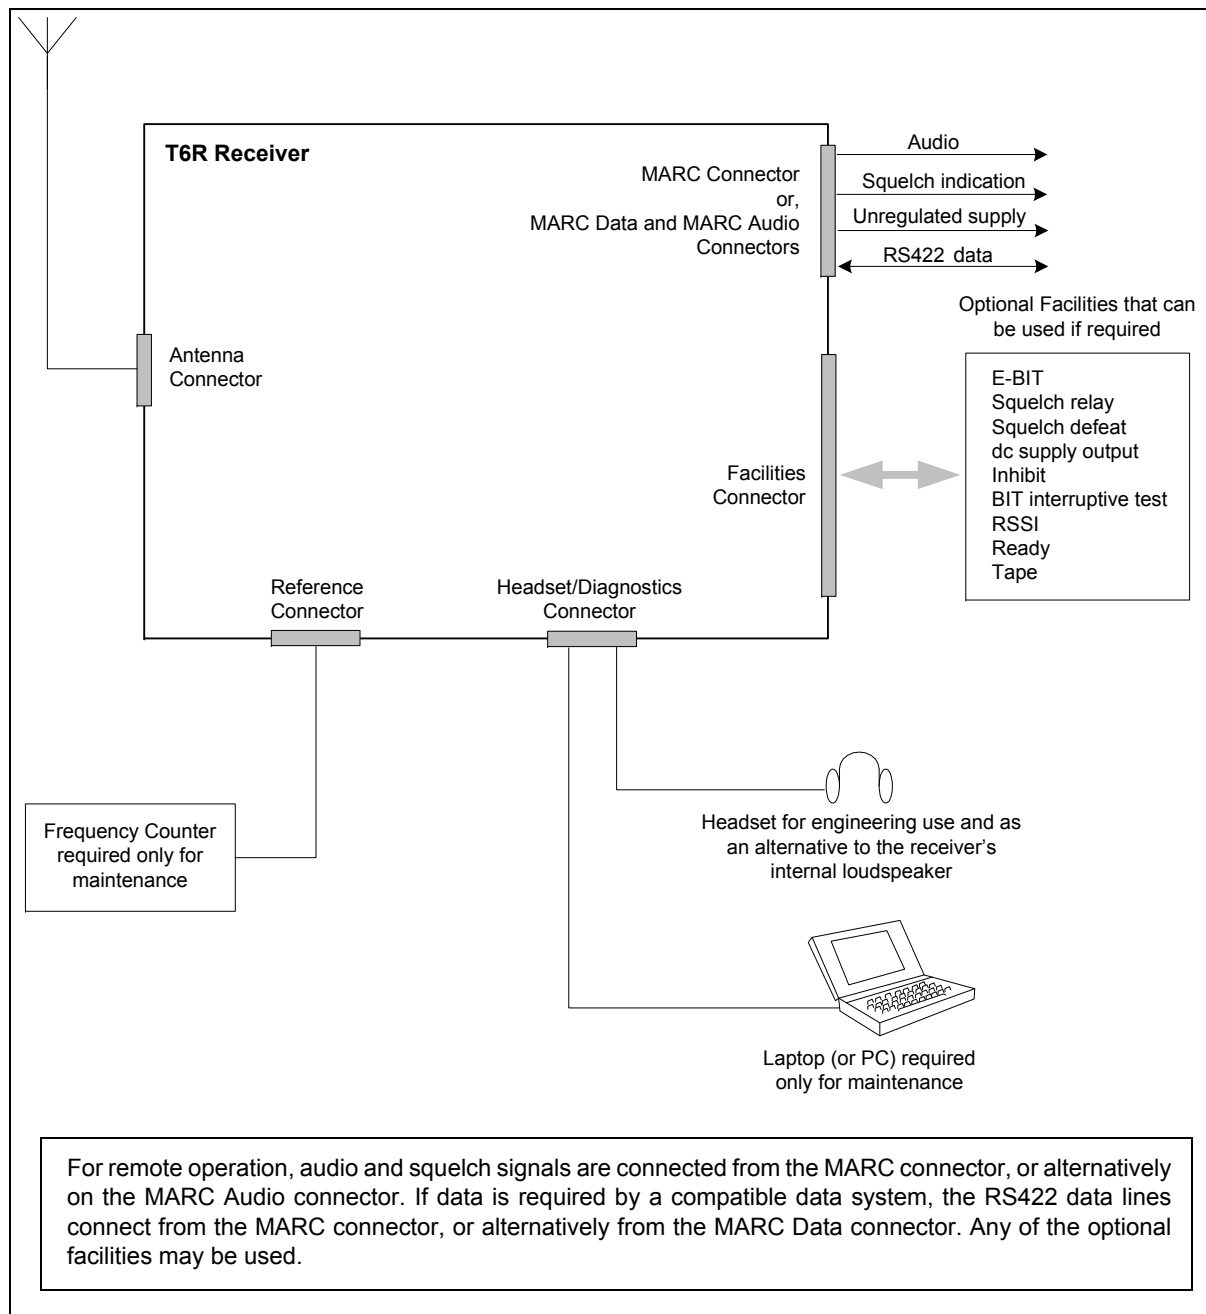

Fig 4-2 Receiver Configured for Remote Operation
- ❑ Receiver configured for remote operation (see Fig 4-2)